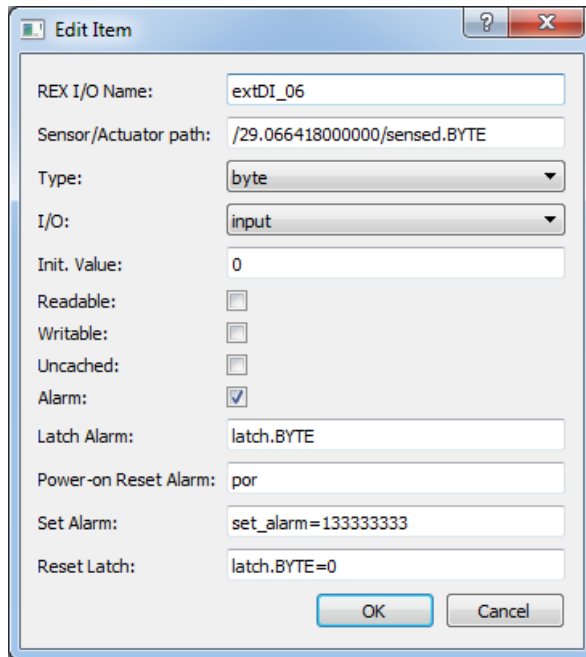

Figure 3.3: Example of configuration dialog for an alarm
Configuration of one alarm in the case of DS2408 circuit based 1-Wire device is shown in Fig. 3.3. The path to the signal (**Sensor/Actuator path**) is entered without starting directory `/alarm`. After selecting the **Alarm**, additional strings should be entered. The configured string values are preprocessed and stored to working string variables for each alarm (before start of the driver):
**ALARM\_SET\_WAIT** – Waiting for the completion of the writing started in the **ALARM\_SET** state. After that, all outputs are checked. When an output whose path starts with the **sPath** string is found, the initial value specified in the **Init. Value** item is written to the corresponding file (see fig. 3.3).